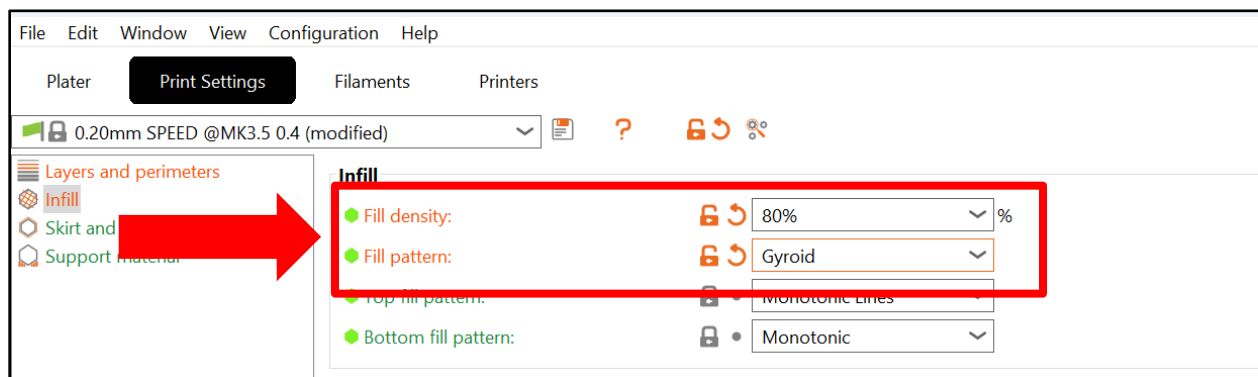

Figure 3. Adjusted Infill Settings.
4.) Change the fill density to 80% and the fill pattern to Gyroid (see red box in Figure 3).